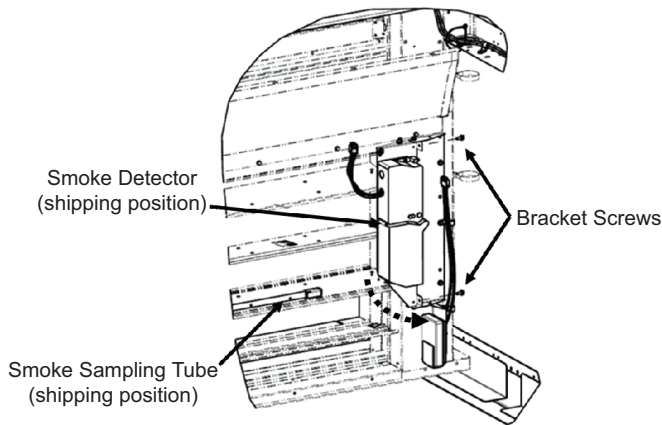

Fig. 46 — Smoke Detector Shipping Position
1. Remove the smoke sampling tube from the shipping location (see Fig. 46).
2. Remove and save the 2 screws securing the smoke detector bracket in the shipping position. (See Fig. 46.)